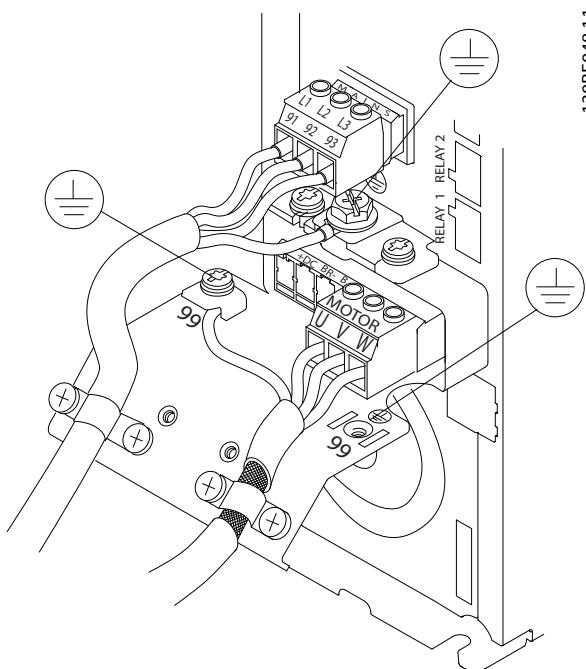

Figure 4.5 Example of Motor, Mains, and Ground Wiring
Figure 4.5 shows mains input, motor, and grounding for basic frequency converters. Actual configurations vary with unit types and optional equipment.
1. Connect the 3-phase AC input power wiring to terminals L1, L2, and L3 (see Figure 4.5).